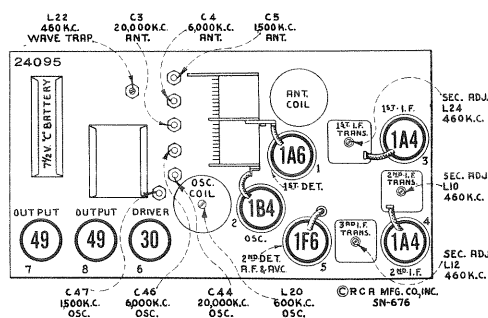
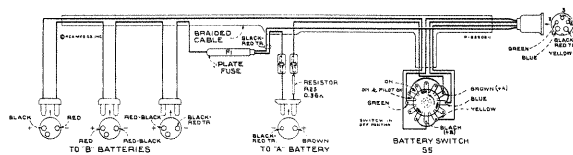

Figure 3—Radiotron, Coil, and Trimmer Locations
Figure 9—Battery Cable (8BT and 8BK)
- Adjust the two magnetite core screws L12 and L11 (see figures 3 and 7) of the third i-f transformer (one on top and one on bottom) to produce maximum vertical deflection of the oscillographic image. This adjustment places the transformer in exact resonance with the 460-kc signal.
Filament voltage for these receivers is obtained from either a 2½-volt Air-cell or a 2-volt storage battery. When the Air-cell is used, the 0.36 ohm resistor R25 must be connected in series with the A-battery lead as shown on figure 9. When operating on a 2-volt storage battery, this resistor R25 should
be removed. Plugs are provided on the battery cable (see figure 9) for plugging in the Air-cell and B batteries. The A-battery plug should be removed when operating on a 2-volt storage battery. The 7½-volt C battery is located on the top-side of the chassis and securely held in place by a metal cover (see figure 3). The four bias cells are located underneath the chassis (see figures 2 and 6).
(black) lead and the +4-volt (blue) lead supply filament voltage to the receiver, while the +4-volt (red) lead and -volt (yellow) lead supply voltage to the vibrator power unit. The two 4-volt leads (blue and red) should make separate connections to the same battery strap to avoid against vibrator buzz which might otherwise result if these two leads are joined together or touch each other. The 7½-volt C battery is located on the top-side of the receiver chassis and securely held in place by a metal cover (see figure 3). The four bias cells are located underneath the receiver chassis (see figures 2 and 6).